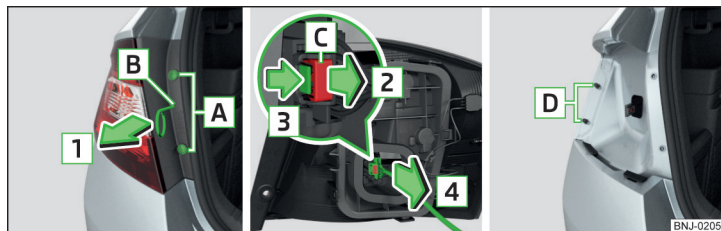
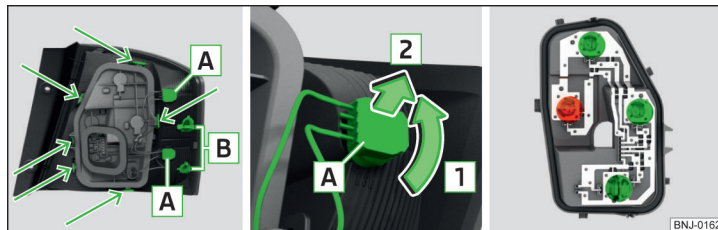

Fig. 216 Remove light / pull out connector
Fig. 217 Outer part of the lamp / removing the bulb / lamp holder
- Grasp the light with the palm of the hand and remove carefully in the direction of arrow **1** » Fig. 216 from the pin **D**.
- Tighten the lock in the opposite direction to the arrow **2** » Fig. 216.
- Insert the lamp with the holes **B** » Fig. 217 on page 190 onto the pins **D** » Fig. 216 in the body.
- Turn the holder with the bulb **A** in the direction of the arrow **1** » Fig. 217.
- Turn the holders with the bulbs **A** in the direction of the arrow **1** » Fig. 217. ▶
- Release the bulb holder in the areas identified by arrows » Fig. 217.